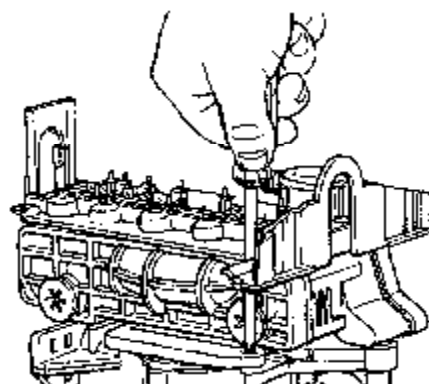

Figure 15
- Remove the locking bar screw, Figure 15.